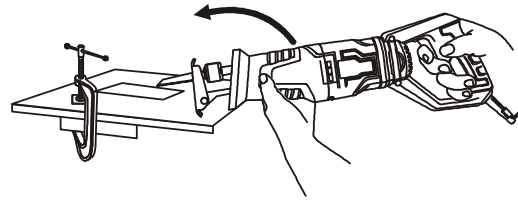

Fig. 5
2. Clamp the workpiece to a workbench or table (Fig. 5).